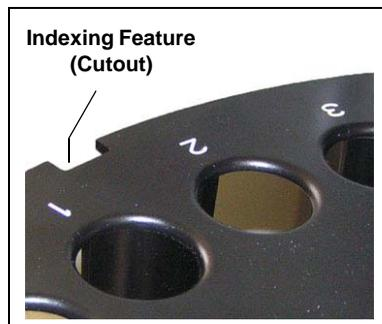

Figure 3-12. Cutout in Vial Tray Insert
4. Orient the vial tray insert so that the indexing feature (the cutout between positions 1 and 2) (see Figure 3-12) is on the left side of the insert.